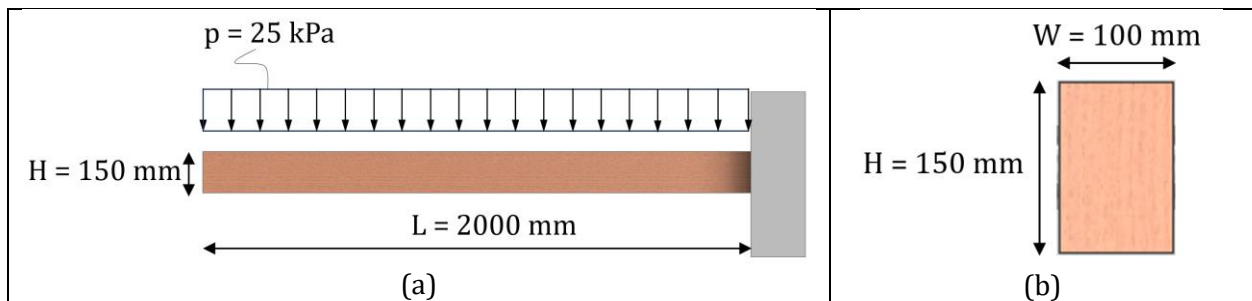

Figure 1-1 – Cantilever beam.
The cantilever beam with dimensions and applied load is shown in Figure 1-1.
- d. Use the dimension tool (📏) to dimension the top and left edges of the rectangle. The top edge should have a horizontal dimension of **2000** mm, and the left edge should have a vertical dimension of **150** mm. See Figure 1-1. When dimensioning each edge, simply select the line, Left-click to position the dimension text, and then enter the new dimension in the prompt area.